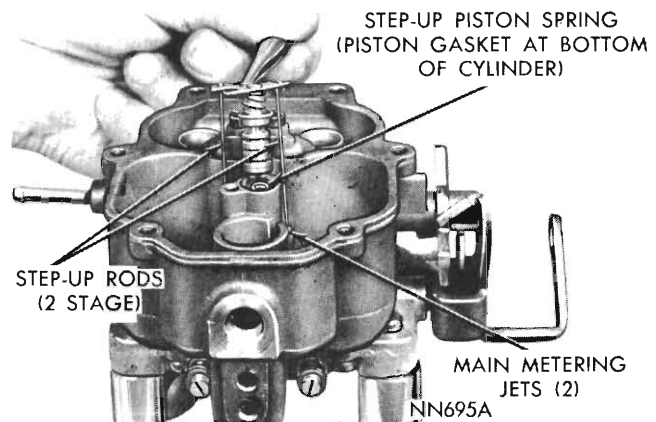

Fig. 2 - Removing or installing step-up piston
(9) Remove the fuel inlet needle valve, seat and gasket from the main body.
(10) Lift out the float fulcrum pin retainer, then lift out the floats and fulcrum pin.
(11) Remove the step-up piston retaining screw, and slide step-up piston and rods out of well, as shown in (*Fig. 2*). Now, lift out the step-up piston spring. Remove the step-up piston gasket from the bottom of the well.